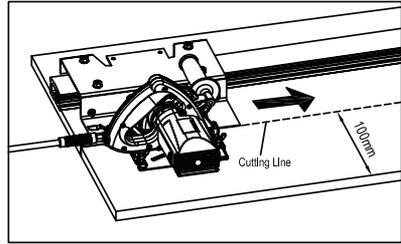

Figure 2
- The ESC-125 should be attached onto the Carriage Assembly with the blade located next to the Carriage Assembly for cutting material 100mm or more in width (See Figure 2).